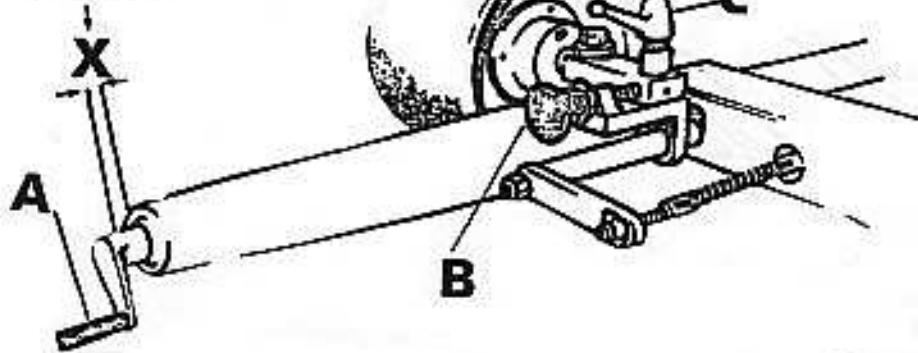

FIG. 6
Turn hand lever 'A' (Fig.6) in clockwise direction to slacken belt until it is possible to lift belt from pulleys and over wooden fence on the oversanding table. On machines with sanding discs fitted to drive pulley, the belt will require lifting over disc back plate, therefore, belt may require slackening further than machines which are not fitted with this feature.
To replace belt, reverse procedure outlined in point (2) and re-tension by turning handlever 'A' in anti-clockwise direction (DO NOT OVERTENSION, SEE POINT 'X' (Fig. 6)
Remove the pulley guard and by turning the handlever 'A' (Fig.6) tension belt to point where all slackness is removed but belt is not fully tensioned as it would be for use under running conditions.
Replace pulley guard and tension belt by turning handle 'A' until there is 1/8in. to 1/4in. (3mm-6mm) clearance between shoulder of handle and body casting (see point 'X' Fig. 6).